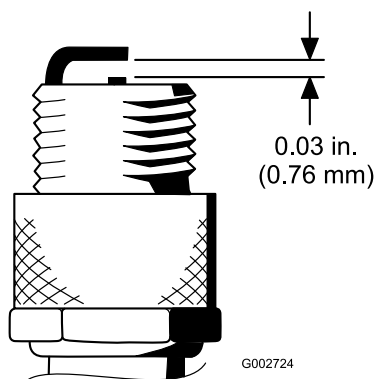

Figure 45
- Set the air gap between the center and side of the electrodes at 0.030 inch (0.76 mm) (Figure 45).